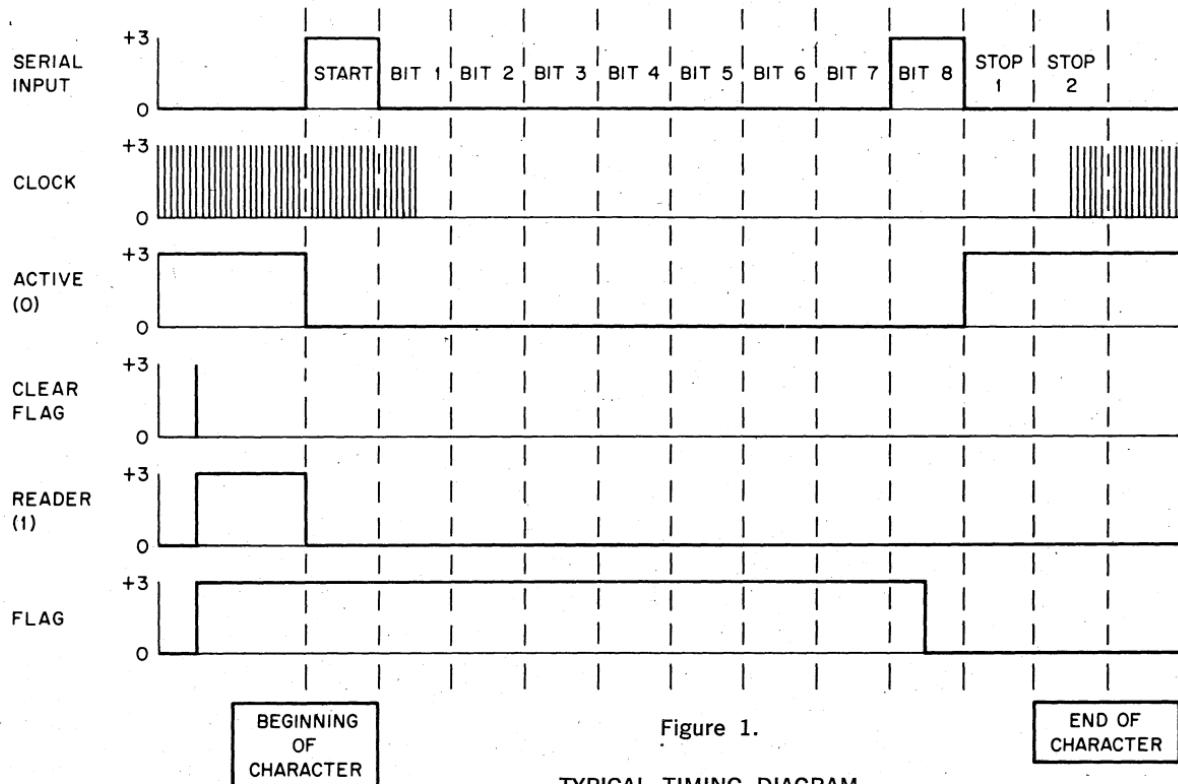

Figure 1.
The M706 Teletype Receiver is a serial-to-parallel teletype code converter self contained on a double height module. This module includes all of the serial-to-parallel conversion, buffering, gating, and timing (excluding only an external clock necessary to transfer information in an asynchronous manner between a serial data line or teletype device and a parallel binary device). Either a 5-bit serial character consisting of 7.0, 7.5, or 8.0 units or an 8-bit serial character of 10.0, 10.5, or 11.0 units can be assembled into parallel form by the M706 through the use of different pin connections on the module. When conversion is complete, the start and stop bits accompanying the serial character are removed. The serial character is expected to be received with the start bit first, followed by bits 1 through 8 in that order, and completed by the stop bits. Coincident with reception of the center of bit eight, the Flag output goes low indicating that a new character is ready for transmission into the parallel device. The parallel data is available at the Bit 1 through Bit 8 outputs until the beginning of the start bit of a new serial character as received on the serial input. See the timing diagram of Figure 1 for additional information.
**Read Buffer:** A high level or positive pulse at this input while the code select inputs are all high will transfer the state of the shift register to outputs Bit 1 through Bit 8. Final parallel character data can be read by this input as soon as the Flag output goes to ground. Output data will be available a maximum of 100 nsec after the rising edge of this input. See the timing diagram of Figure 1 for additional information.
**Active (0):** This output goes low at the beginning of the start bit of each received character and returns high at the completion of reception of bit 8 for an 8-bit character or of bit 5 for a 5-bit character. Since this signal uses from ground to +3 volts one-half bit time after the Flag output goes to ground, it can be used to clear the flag through Clear Flag 2 input while the Flag Output after being inverted can strobe parallel data out when connected to Read Buffer.
The M707 Teletype Transmitter is a parallel-to-serial teletype code converter self contained on a double height module. This module includes all of the parallel-to-serial conversion, buffering, gating, and timing (excluding only an external clock) necessary to transfer information in an asynchronous manner between a parallel binary device and a serial data line or teletype device. Either a 5-bit or an 8-bit parallel character can be assembled into a 7.0, 7.5, or 8.0 unit serial character or a 10.0, 10.5, or 11.0 unit serial character by the M707 through the use of different pin connections on the module. When conversion is complete, the necessary start bit and selected stop bits (1.0, 1.5, or 2.0 units) have been added to the original parallel character and transmitted over the serial line. The serial character is transmitted with the start bit first, followed by bits 1 through 8 in that order, and completed by the stop bits. Coincident with the stop bit being put on the serial line, the Flag output goes low indicating that the previous character has been transmitted and a new parallel character can be loaded into the M707. Transmission of this new character will not occur until the stop bits from the previous character are completed. See the timing diagram of Figure 1 for additional information.